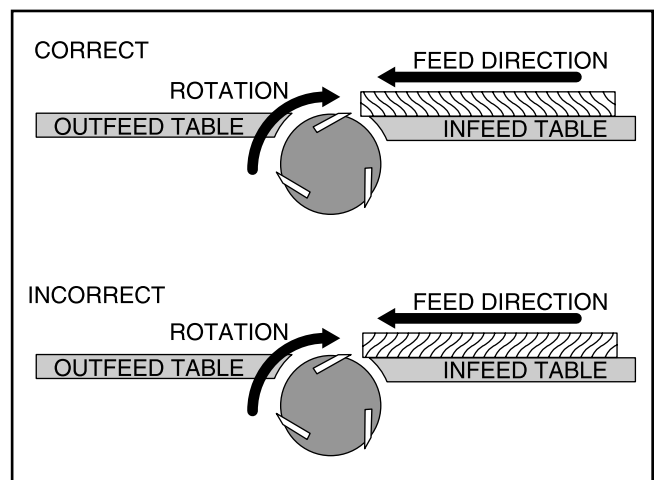

Figure 27. Correct and incorrect grain alignment to cutterhead.
- **Jointing and surface planing “with” the grain produces a better finish and is safer for the operator.** Cutting “with” the grain is best described as feeding the stock on the jointer so the grain points down and toward you as viewed on the edge of the stock (**Figure 27**). Note—If the grain changes direction along the edge of the board, your best bet for improving cut quality is to decrease the cutting depth and make additional passes.